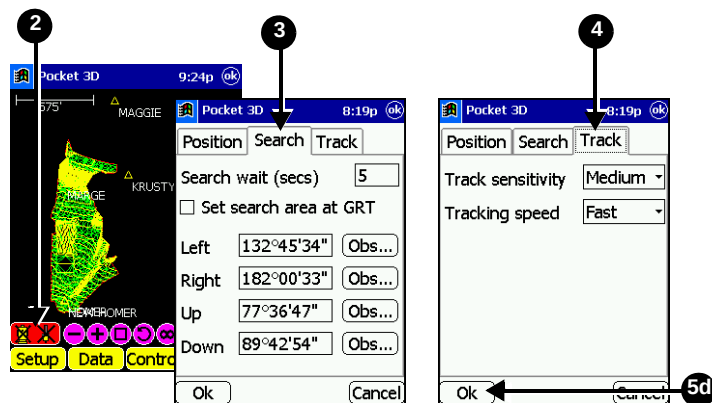

Figure 8-7. Set GRT-2000 Search and Track Parameters
3. Press the **Search** tab and set the following parameters (Figure 8-7):
4. Press the **Track** tab to adjust the tracking performance of the GRT-2000. Refer to the GRT-2000 instruction manual for details on adjustment. The following parameters are standard for most applications (Figure 8-7).